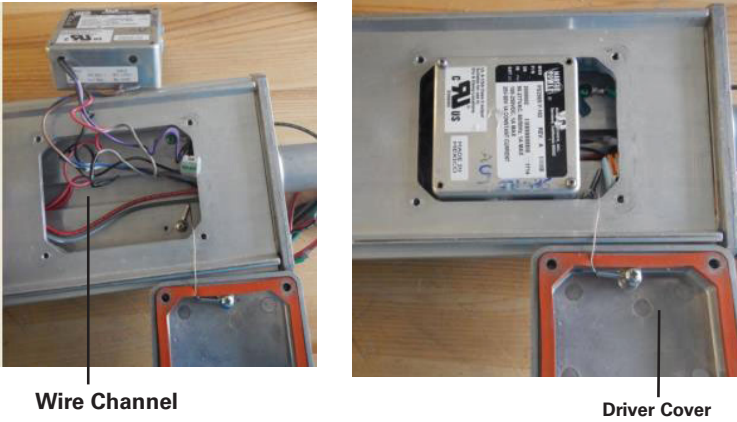

Figure 18
7. Disconnect the input and output leads of the old driver(s) (see Figure 18).
8. Remove the two (2) screws that secure the driver; remove the old driver.
11. Reinstall the new driver into the luminaire, ensuring that output wires to LED boards are tucked neatly into the housing and the input and dimming wire leads are placed in the wiring channel underneath the driver and routed to the input wiring area (see Figure 18).
12. Ensure that the driver is in direct contact with the luminaire housing and no wires are being pinched between the driver and the housing. Secure with two (2) screws and tighten to 5 in.-lb. (0.6 N-m).